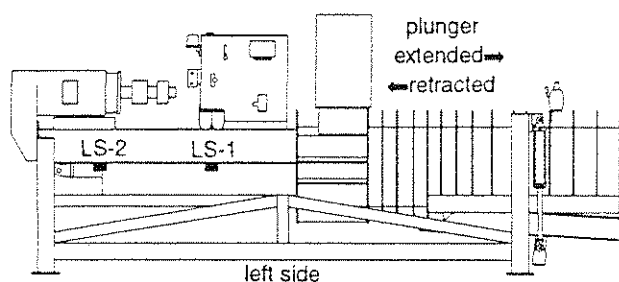

Fig. 5 Plunger fully retracted
5. PLUNGER FULLY RETRACTED When the plunger reaches full retraction (fig. 5) the plunger operates limit switch 2 (LS-2), which sets relay 5 (RL-5) to unlatch relay 1 (RL-1). This removes the energizing power to solenoid 2 (SOL-2) and energizes solenoid 1 (SOL-1) through relay 4 (RL-4), causing the plunger to reverse direction: